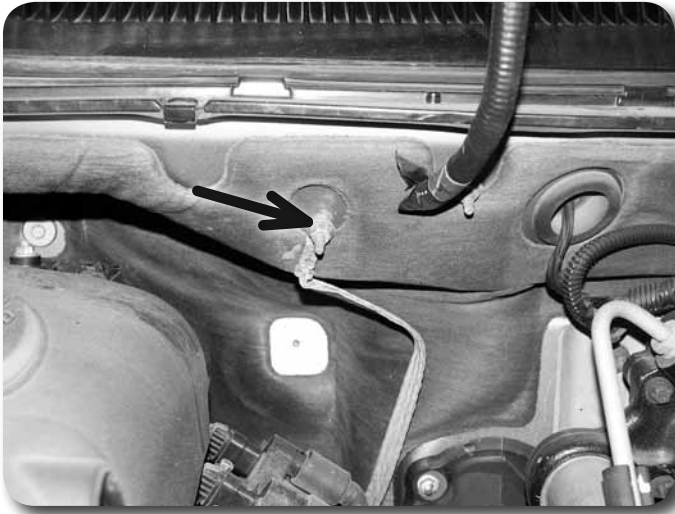

Figure 6
9. Disconnect the ground strap from the driver's side firewall **Figure 6**. Save nut.